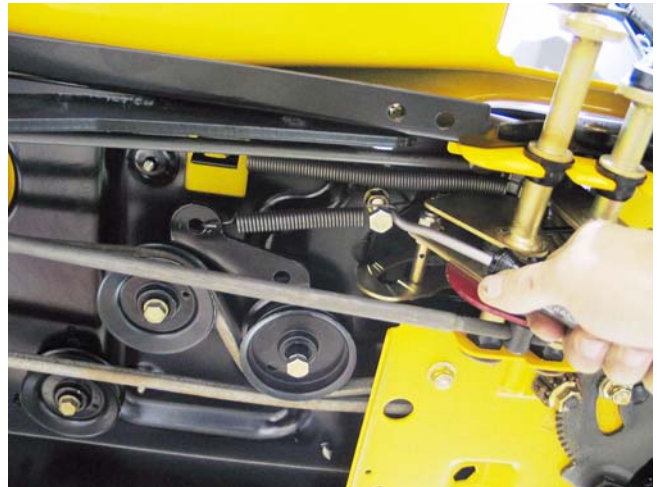

Figure 30.6
- 30.6. Carefully release the spring that maintains tension on the double idler bracket using a length of starter rope or an appropriate tool. See Figure 30.6.